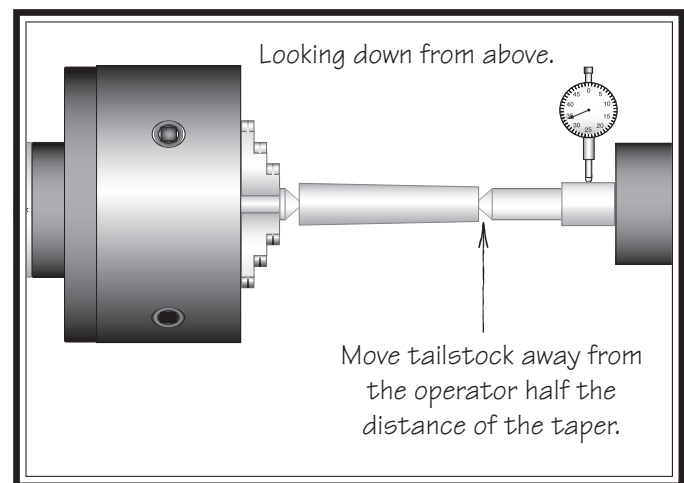

Figure 62. Adjust tailstock away from the operator.
- If the machined workpiece is *thinner* at the tailstock end, move the tailstock *away* from the operator $\frac{1}{2}$ the distance of the amount of taper (see **Figure 62**).